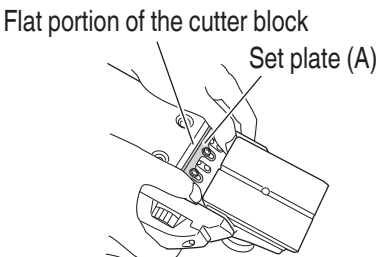
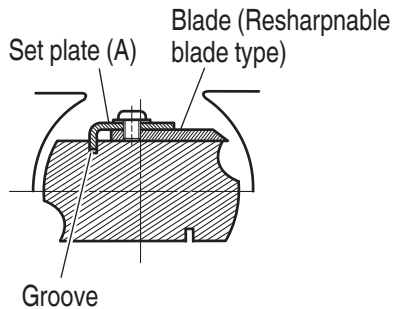
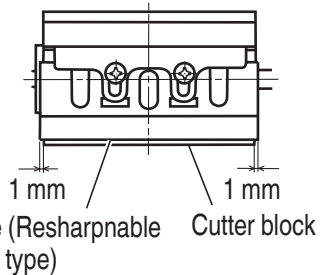

Fig. 17
Fig. 20
Fig. 21
- (5) As shown in **Fig. 17, 18**, insert a turned portion of set plate (A) attached to set plate (B) into a groove on the flat portion of the cutter block.
- (1) Insert a turned portion of set plate (A) attached to the blade into a groove on the flat portion of the cutter block. (**Fig. 17 on page 21** and **Fig. 20**) Set the blade so that both sides of the blade protrude from the width of the cutter block by about 1 mm (**Fig. 21**)